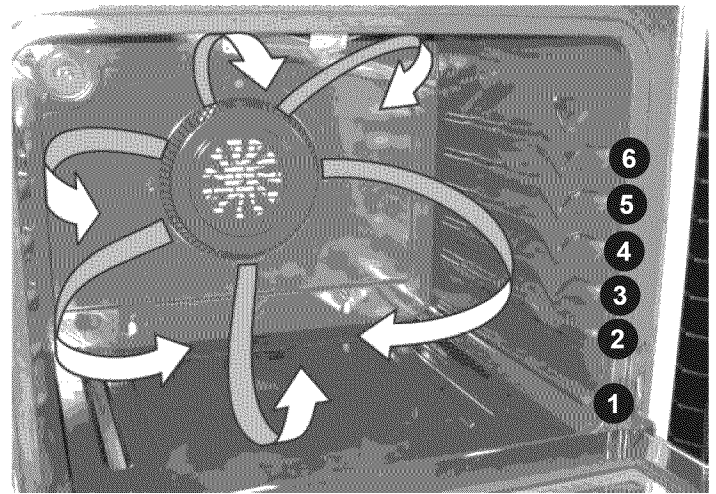

Fig. 1
Convection uses a fan to circulate the oven's heat uniformly and continuously around the oven (See Fig. 1). This improved heat distribution allows for fast, even cooking and browning results. It also gives better baking results when using two racks at the same time. Heated air flows around the food from all sides, sealing in juices and flavors. Meats cooked with Convection are juicier. Poultry is crisp on the outside while staying tender and moist on the inside. Breads and pastry brown more evenly. Most foods baked in a standard oven will bake faster and more evenly with the Convection feature.
- When using 2 oven racks at the same time, place in oven rack positions 2 & 4 for best results (See Fig. 1). Please note that layer cakes will have better results using the Bake function.